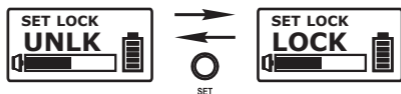

Fig. 15
11. SET LOCK: Setup of Parameter Lock, Fig. 15.
- (A) Press MODE button to access SET LOCK and the parameters start blinking and is ready to be changed.
- (B) Press SET button to set UNLK or LOCK. UNLK is unlock; LOCK is lock.
- (C) Press MODE button to save or the parameter saves automatically when blinking stops.
- (D) During LOCK mode, receiver settings cannot be changed including the powering on / off. To power off it needs to be in unlock mode (UNLK). A sudden loss of power will deactivate the LOCK function.
- (E) MUTE function can be operated normally during LOCK mode.